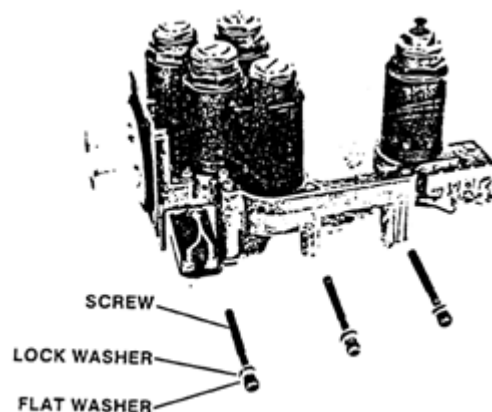

Figure 5-2. Solenoid Pack
3. Remove solenoid pack (Figure 5-2).